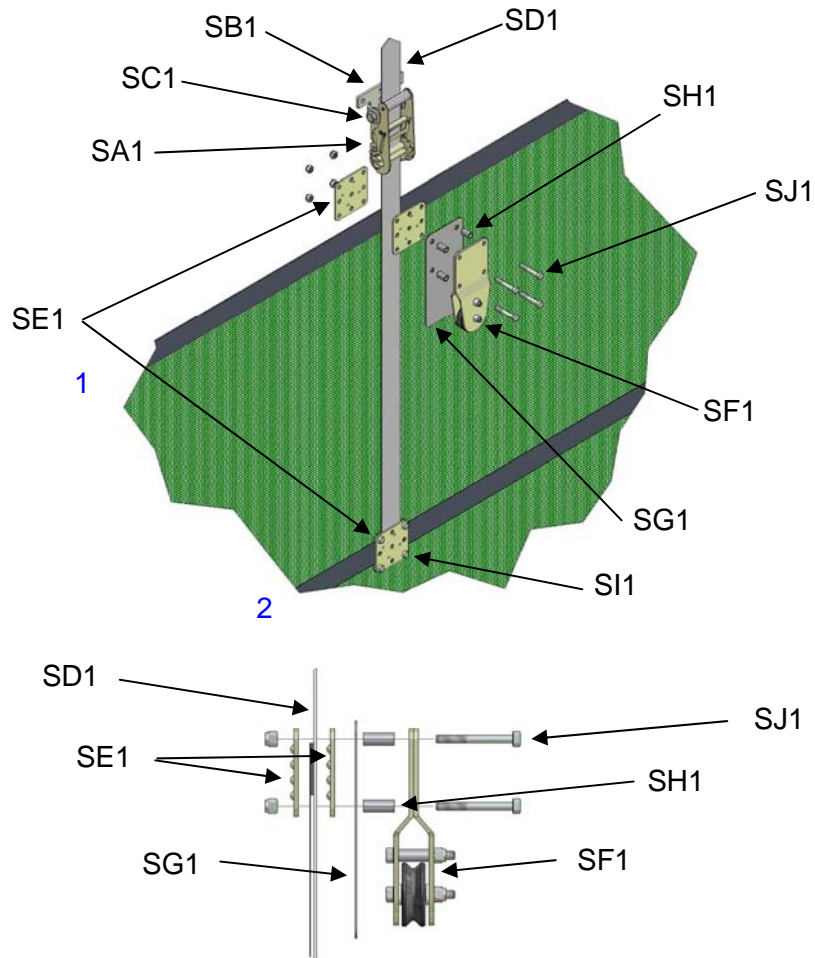

Figure 20
6.2 Fix the Ratchet (SA1) to the Ratchet Bracket (SB1) with the M12 x 90mm bolt (SC1) provided. The standard fitting of the ratchet bracket is depicted in Figure 20, but it can be reversed if vertical mounting space is limited. Fit assembly to the building with three fixings, minimum size 8mm.
6.3 Referring to Figure 20. Fix vertical webbing strap (SD1) to second strap down on the door using the Clamp Plates (SE1) and M8 x 20 Bolts (S11) provided. Repeat process on top strap but use the M8 x 50 Bolts supplied (SJ1) and include the Wire Support Assembly (SF1), Spacers (SH1) and Wire Support Protection Pad (SG1). Feed webbing through ratchet and ensuring a minimum of 150mm of webbing is around the ratchet barrel operate handle to lift the door. Continue to adjust ratchet until top of door is level.